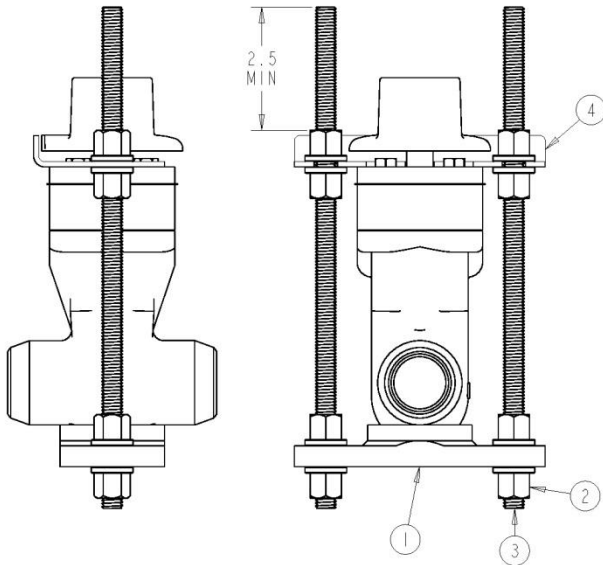

FIGURE 1
2. ASSEMBLE AND SECURE FIXTURE TO VALVE AS SHOWN IN FIGURE 1.